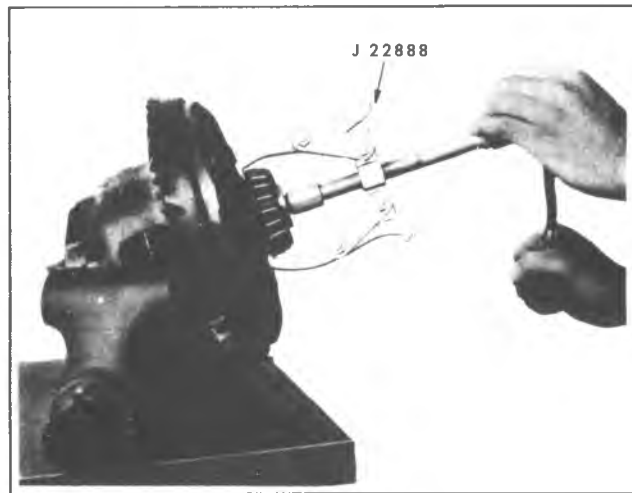

Fig. 16F—Removing Differential Side Bearings
3. Remove differential bearing cone and roller using Puller J-22888, with Plug J-8107-3, as in figure 16F. Tag cone and rollers for assembly.